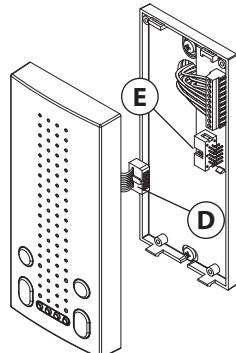

Fig. 4
- Using a flat blade screwdriver connect the wires to the pcb connection board **C** as shown in **Fig. 4**, according to the installation diagram provided.